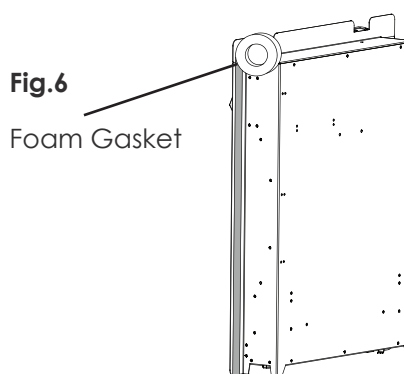

Fig.6
2. Stick the provided foam gasket on the back of flanges. (Fig. 6)